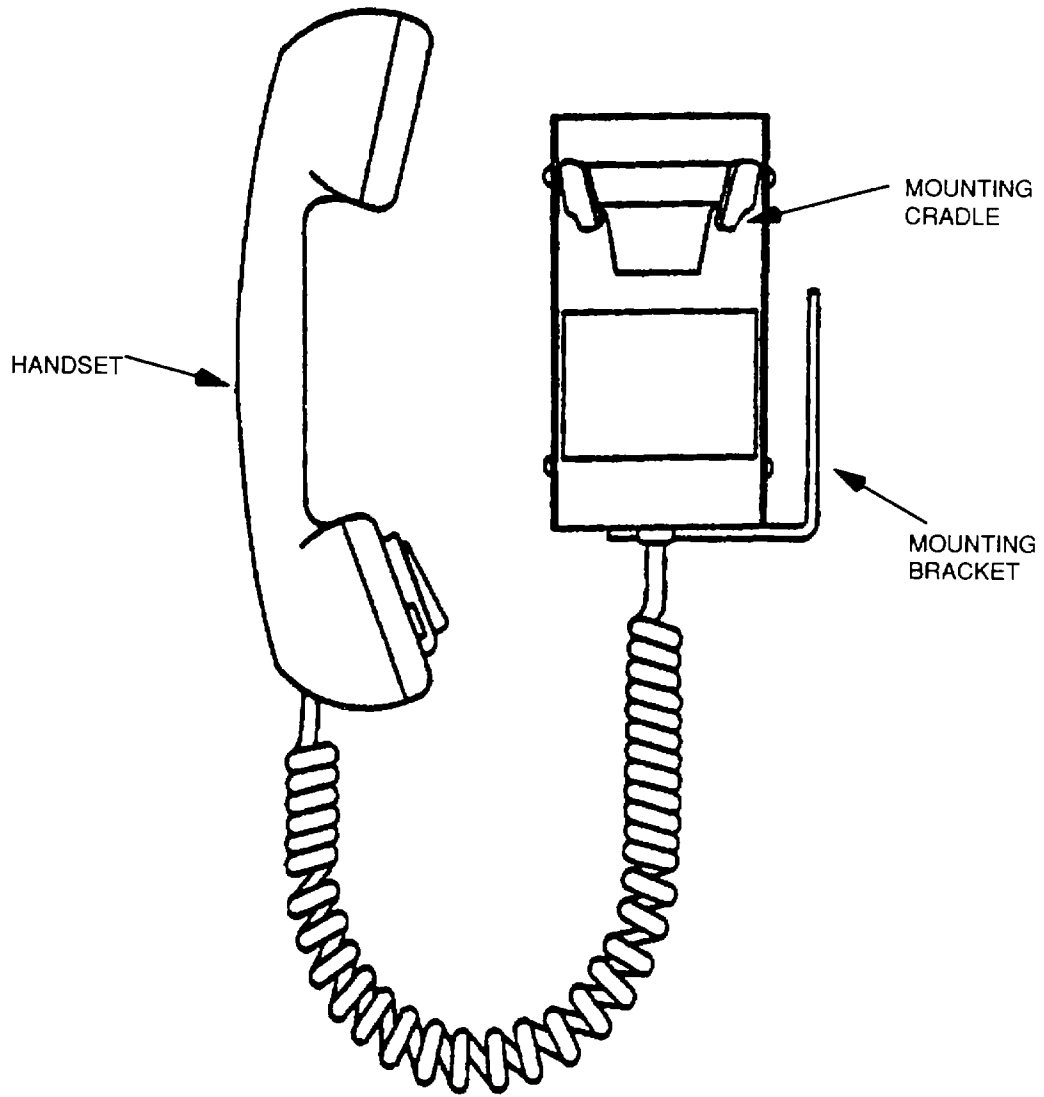

Figure 4-3. System Operator Telephone Handset Station
- d. Operator removes telephone handset (Figure 4-3) from hook (hang-up switch) on side of radio operator's desk and checks that corresponding station is online. Then, operator speaks into handset microphone.